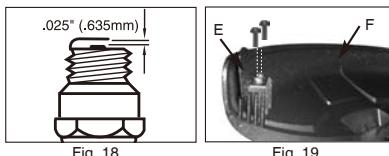

Fig. 18
1. Gnistgabet = .635mm (.025") (Fig.18).